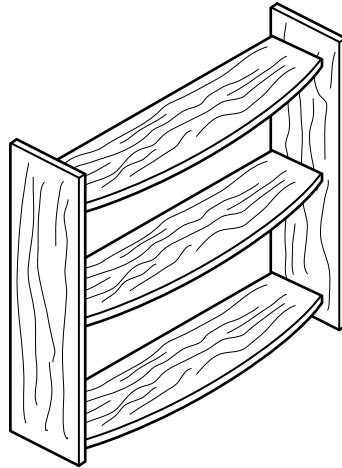

Fig. 13
- (f) Fig. 13 shows a wall-mounted shelf unit with veneered chipboard sides rather than mild steel end frames.